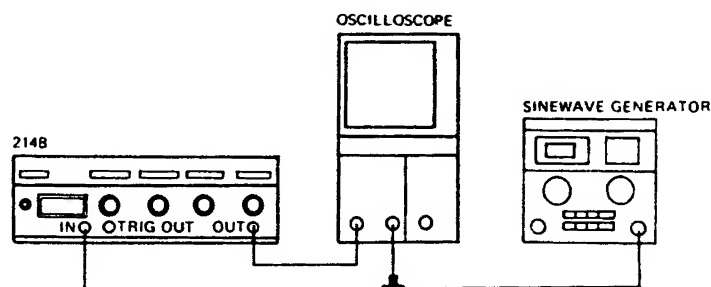

Figure 4-13
1. Connect equipment as shown in Figure 4-13 and set 214B controls as follows: